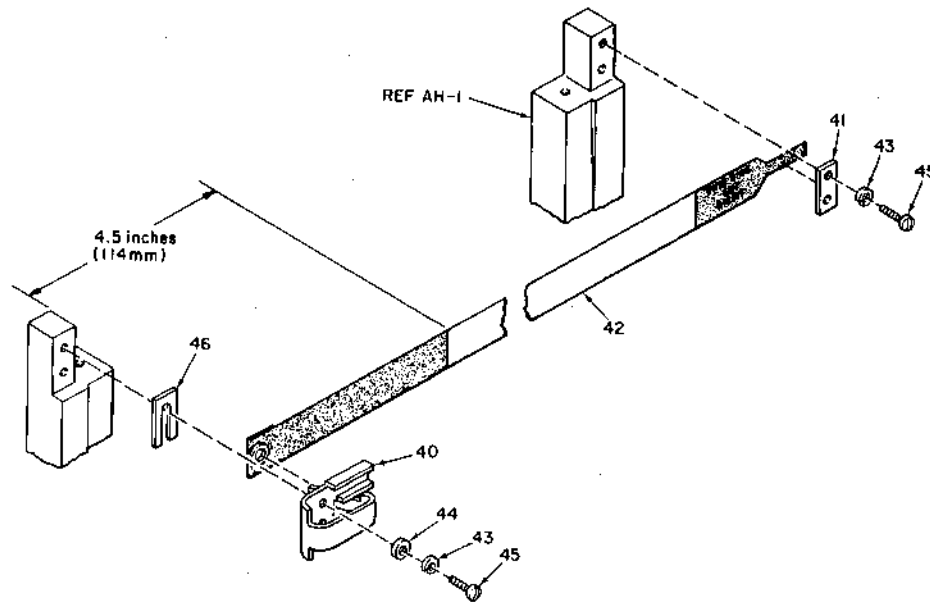

Figure 5-2. TIMING FENCE MOUNTING, MODEL 306
D. TIMING FENCE ASSEMBLY 63060179-5001, FLEXIBLE (FIG. 5-2, 8-2)
3. To remove spring clasp and clamp, from right and left mounting posts respectively, remove screws, washers (Fig. 8-2/45, 43, 44). (Some models may have shim/s between post and fence (See Fig. 5-2).
A. POSITIONING OF FENCE (SEE FIG. 5-2)
- a. Pull tab of fence (42) to the right so that the first window of the fence is located 4.5-in. (114 mm) from right side of left support post. (Note that this dimension adjusts for a nominal 5/8-inch print margin on printing form).
- b. Secure fence under right clamp (41) and when correct dimension has been applied, tighten hardware (43, 45).
B. OPTIC HEAD (NO LOCATING DIMENSION) (SEE FIG. 5-2)